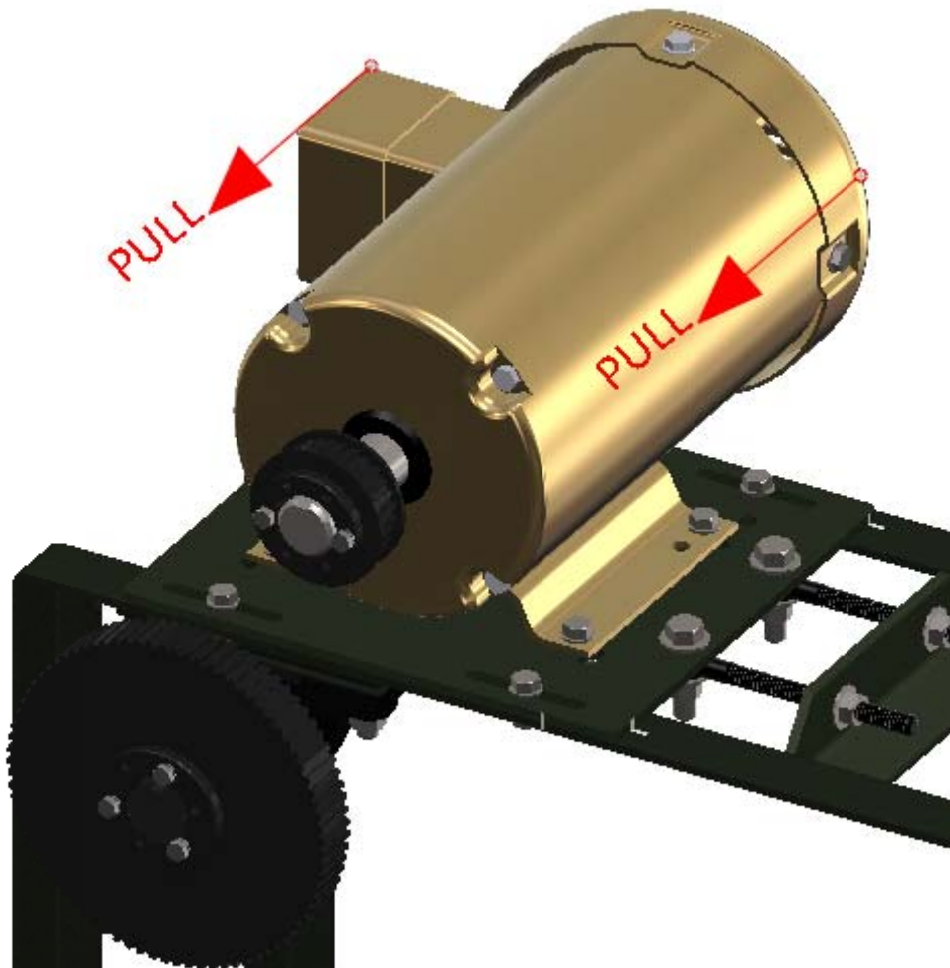

Figure 6: Pull the motor as shown to square it with the motor plate prior to tightening the motor bolts
18. Finger tighten the (2) 1/4"-20 bolts in the motor sprocket bushing.
21. Set the motor on the motor plate, and loosely install the (4) 3/8" -16 x 1" hex bolts, (4) 3/8"-16 nuts and 3/8" flat washers.
22. Square the motor on the motor plate by pulling the motor towards you as shown in Figure 6 below.